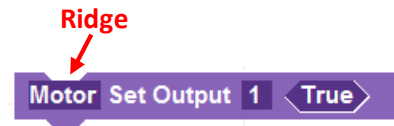

Figure 5. Procedure Block
1. **Procedure Block:** A procedure block is a ridged block that performs the listed command. Procedure blocks can be pieced together to create a list of commands (reference Figure 5.).